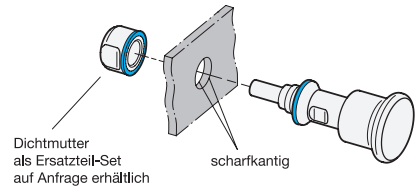

Abb. 2
- The mounting hole must be made such that the metal recesses within the sealing rings rest as fully as possible against the underlying surface to enable tensioning against the block (metallic stop) (tolerance of +0.05/+0.2). The sealing rings must rest fully against the underlying surface (Fig. 2).